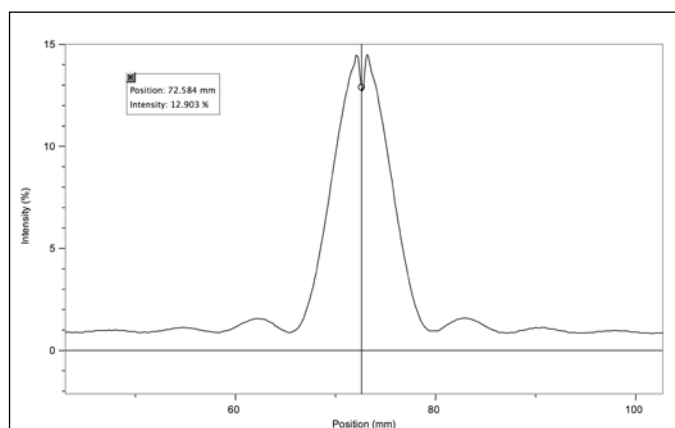

Figure 5 Drop in intensity at central maximum
2. Zoom in on the portion of the graph that shows the most useful information. Choose the Examine tool from the Analysis menu and move the cursor to your best estimate of the position of the peak corresponding to the central maximum. Due to reflection off the front surface of the glass in the slit assembly, the intensity may dip sharply at this point (see Figure 5). Record this position in your lab notebook.